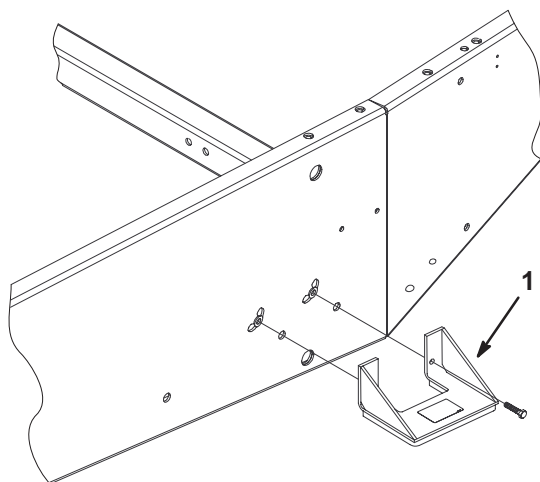

Figure 2
2. On side of machine in which the tire is to be changed, secure jack pad to frame rail with capscrews and wing nuts (Fig. 2).